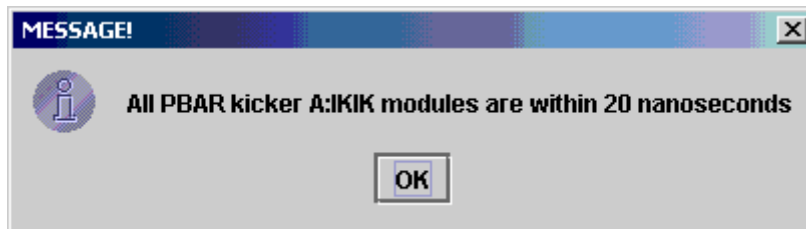

Figure 36: If all kicker modules are aligned within 20 nanoseconds then this popup window will appear. Simply click "OK" to continue.
16. Repeat Step 12 through Step 15 until the kicker traces are aligned within 20 nanoseconds as shown in Figure 36.